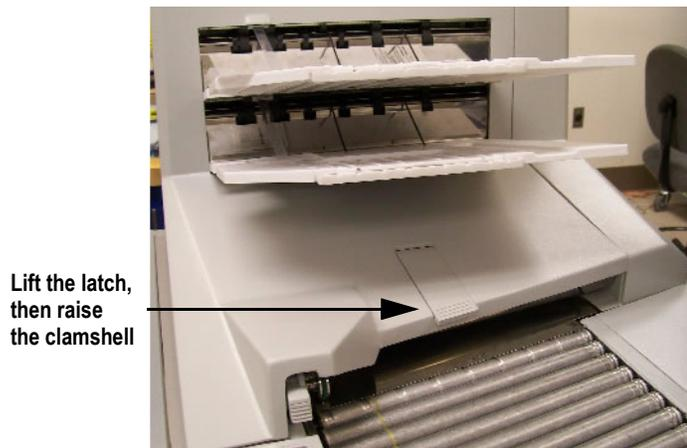

FIGURE 29: Opening the clamshell
- 1 Disengage the latch securing the clamshell in place and lift it up (see Figure 29).
- 2 Disengage the latch securing the clamshell and lift it up (see Figure 29 on page 4-2).